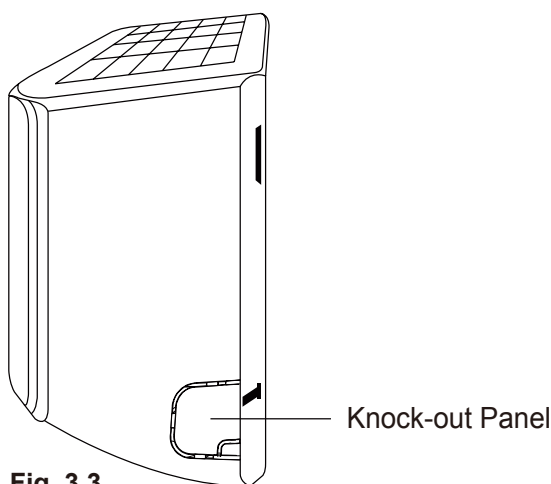

Fig. 3.3
2. If the wall hole is behind the unit, keep the knock-out panel in place. If the wall hole is to the side of the indoor unit, remove the plastic knock-out panel from that side of the unit. (See Fig. 3.3.) This will create a slot through which your piping can exit the unit. Use needle nose pliers if the plastic panel is too difficult to remove by hand.